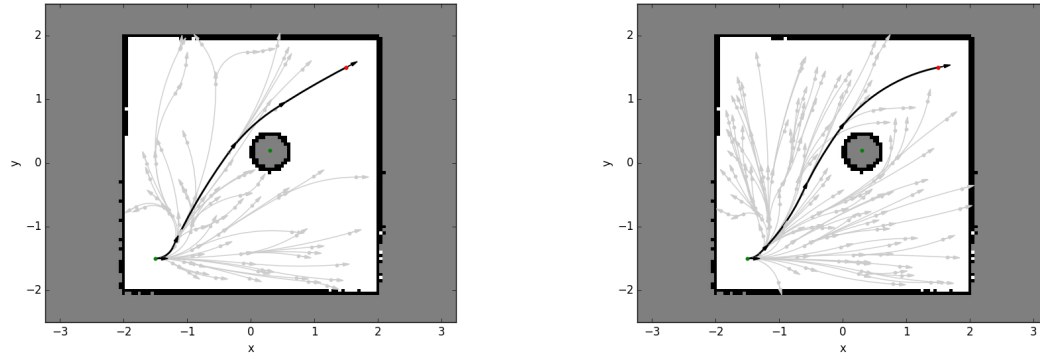

Figure 10: Paths generated by RRT*
- (d) Figure 10 shows the implementation of RRT* generating shorter and smoother paths.